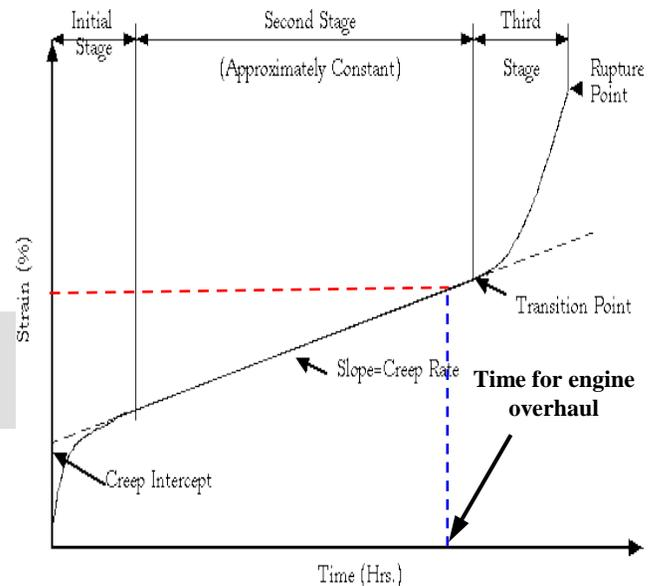

Figure 1. Generic creep profile. Adapted from "Fundamentals of Aircraft and Missile Structures," Naval Postgraduate School, Monterey, CA.
Figure 1 is a typical creep profile for a specific material. The vertical axis is the amount of strain or stretch that the material has experienced. The second stage of the graph is the portion where aircraft engines typically operate. The initial stage shown on the graph usually occurs on the test stand before the engine enters service. I put a horizontal dotted line to represent how much strain the material could withstand before it begins to have problems. Its location is based on the material and the factor of safety for a given application. Where the horizontal dotted line intersects the sloped black line represents how many hours we can expect the engine to operate prior to needing an overhaul, assuming the slope in the second stage is as shown. The time span of the second stage is typically 2000 to 3000 hours. The slope that is shown in the second stage of the graph is an average of what the engine experiences. The actual slope will increase and decrease as the engine is operated at different power settings. If the engine is operated in the military or max position more than normal, this will increase the overall slope of the graph and reduce the life of the engine due to the amount of creep occurring in the turbine blades. It needs to be understood that there is only a certain amount of life in turbine blades. Operating an engine in the higher temperature range will reduce this amount of life.
- e) Consideration of fire dynamics: An understanding of the aircraft's construction and materials aboard are important. Burn patterns among horizontal stringer lay-out may initially be perceived as horizontal sooting, resultant of airflow when in-fact the "window pane" pattern was produced during the post-crash fire (see Figure 1).